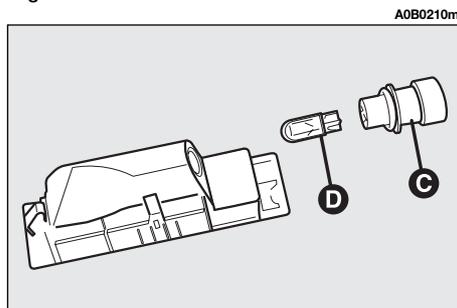

fig. 48
- remove the bulb holder (**C-fig. 48**) turning lightly and replace the bulb (**D-fig. 48**) which is pressure-fitted.
– Refit the bulb holder (**C-fig. 48**) turning gently.